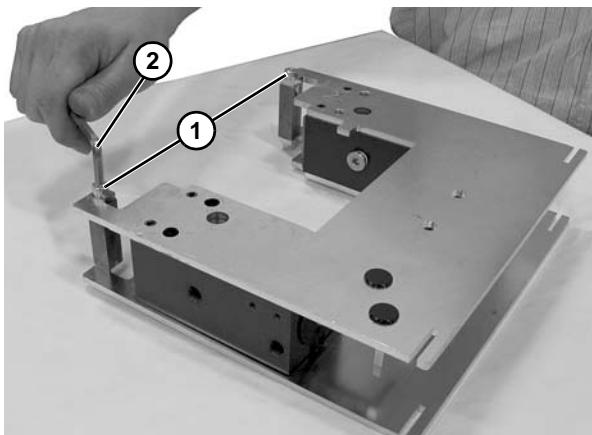

Figure 65
11. Remove two socket head screws (**Figure 65, item 1**) with allen wrench (**Figure 65, item 2**).